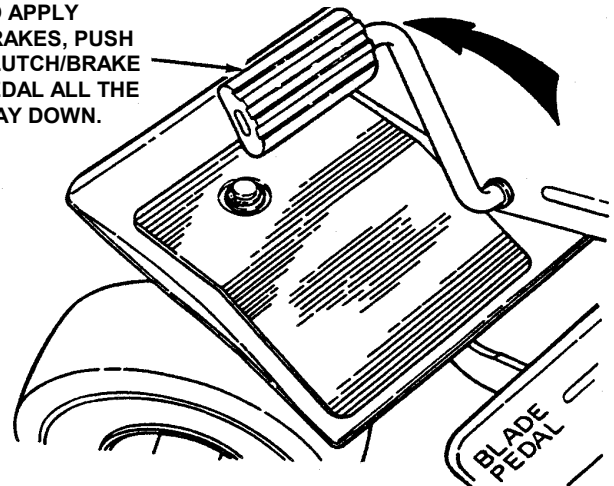

FIGURE 2.5
**IMPORTANT:** When the ignition key is turned to "START", the engine will turn over, but will not start unless the Clutch/Brake pedal is pressed all the way down, the Blade Lever is in the "Off" position (See Figure 2.5). The operator should be in the seat. Start engine as follows:
1. Move transmission shift lever to (N) Neutral position. **DO NOT** start engine with transmission shift lever in a drive position.
3. Press Clutch/Brake Pedal all the way down and hold while starting engine. See Figure 2.5.